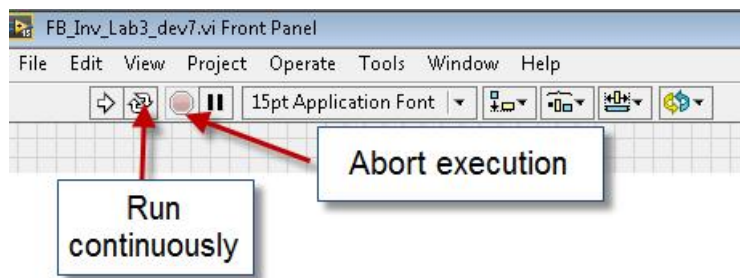

Figure 29 Program execution control in LabVIEW
15. Start LabVIEW program to run continuously as shown by Figure 29.
1. Start LabVIEW program to run continuously as shown by Figure 29.
8. Freeze measurement update in LabVIEW by stopping execution using the "Abort execution" button according to Figure 29.